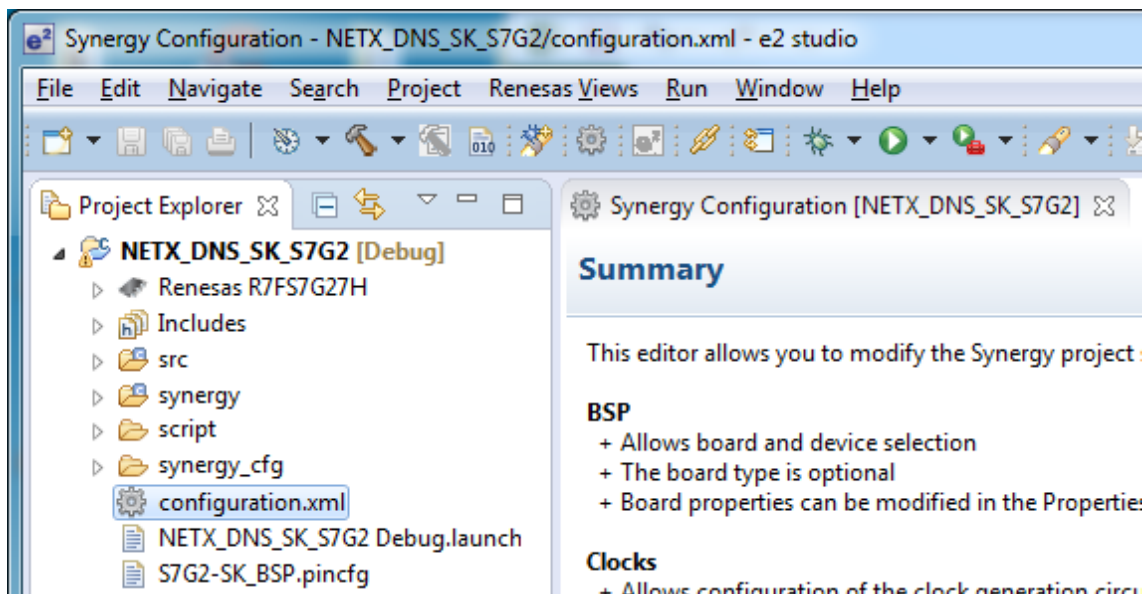

Figure 2.14 Synergy Configuration tabs
- The project should resemble the folder structure seen in Figure 2.14.